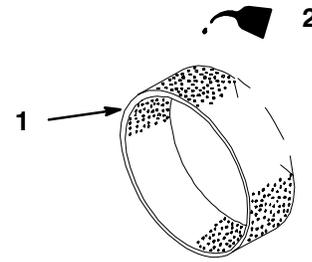

Figure 17
- C. Put one or two ounces of oil on the element (Fig. 17). Squeeze the element to distribute the oil.